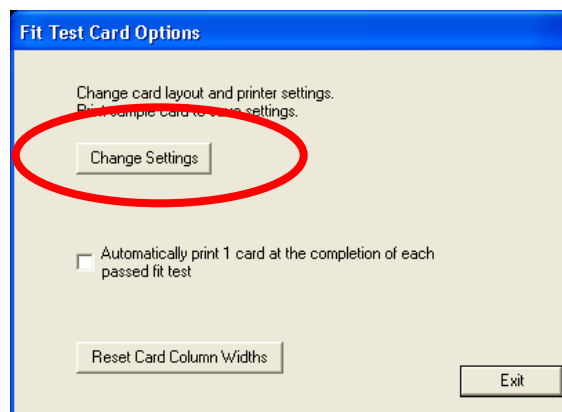

Figure 10-4. Fit Test Card Options Dialog
5. Click **Change Settings** (Figure 10-4) to access the card layout screen.